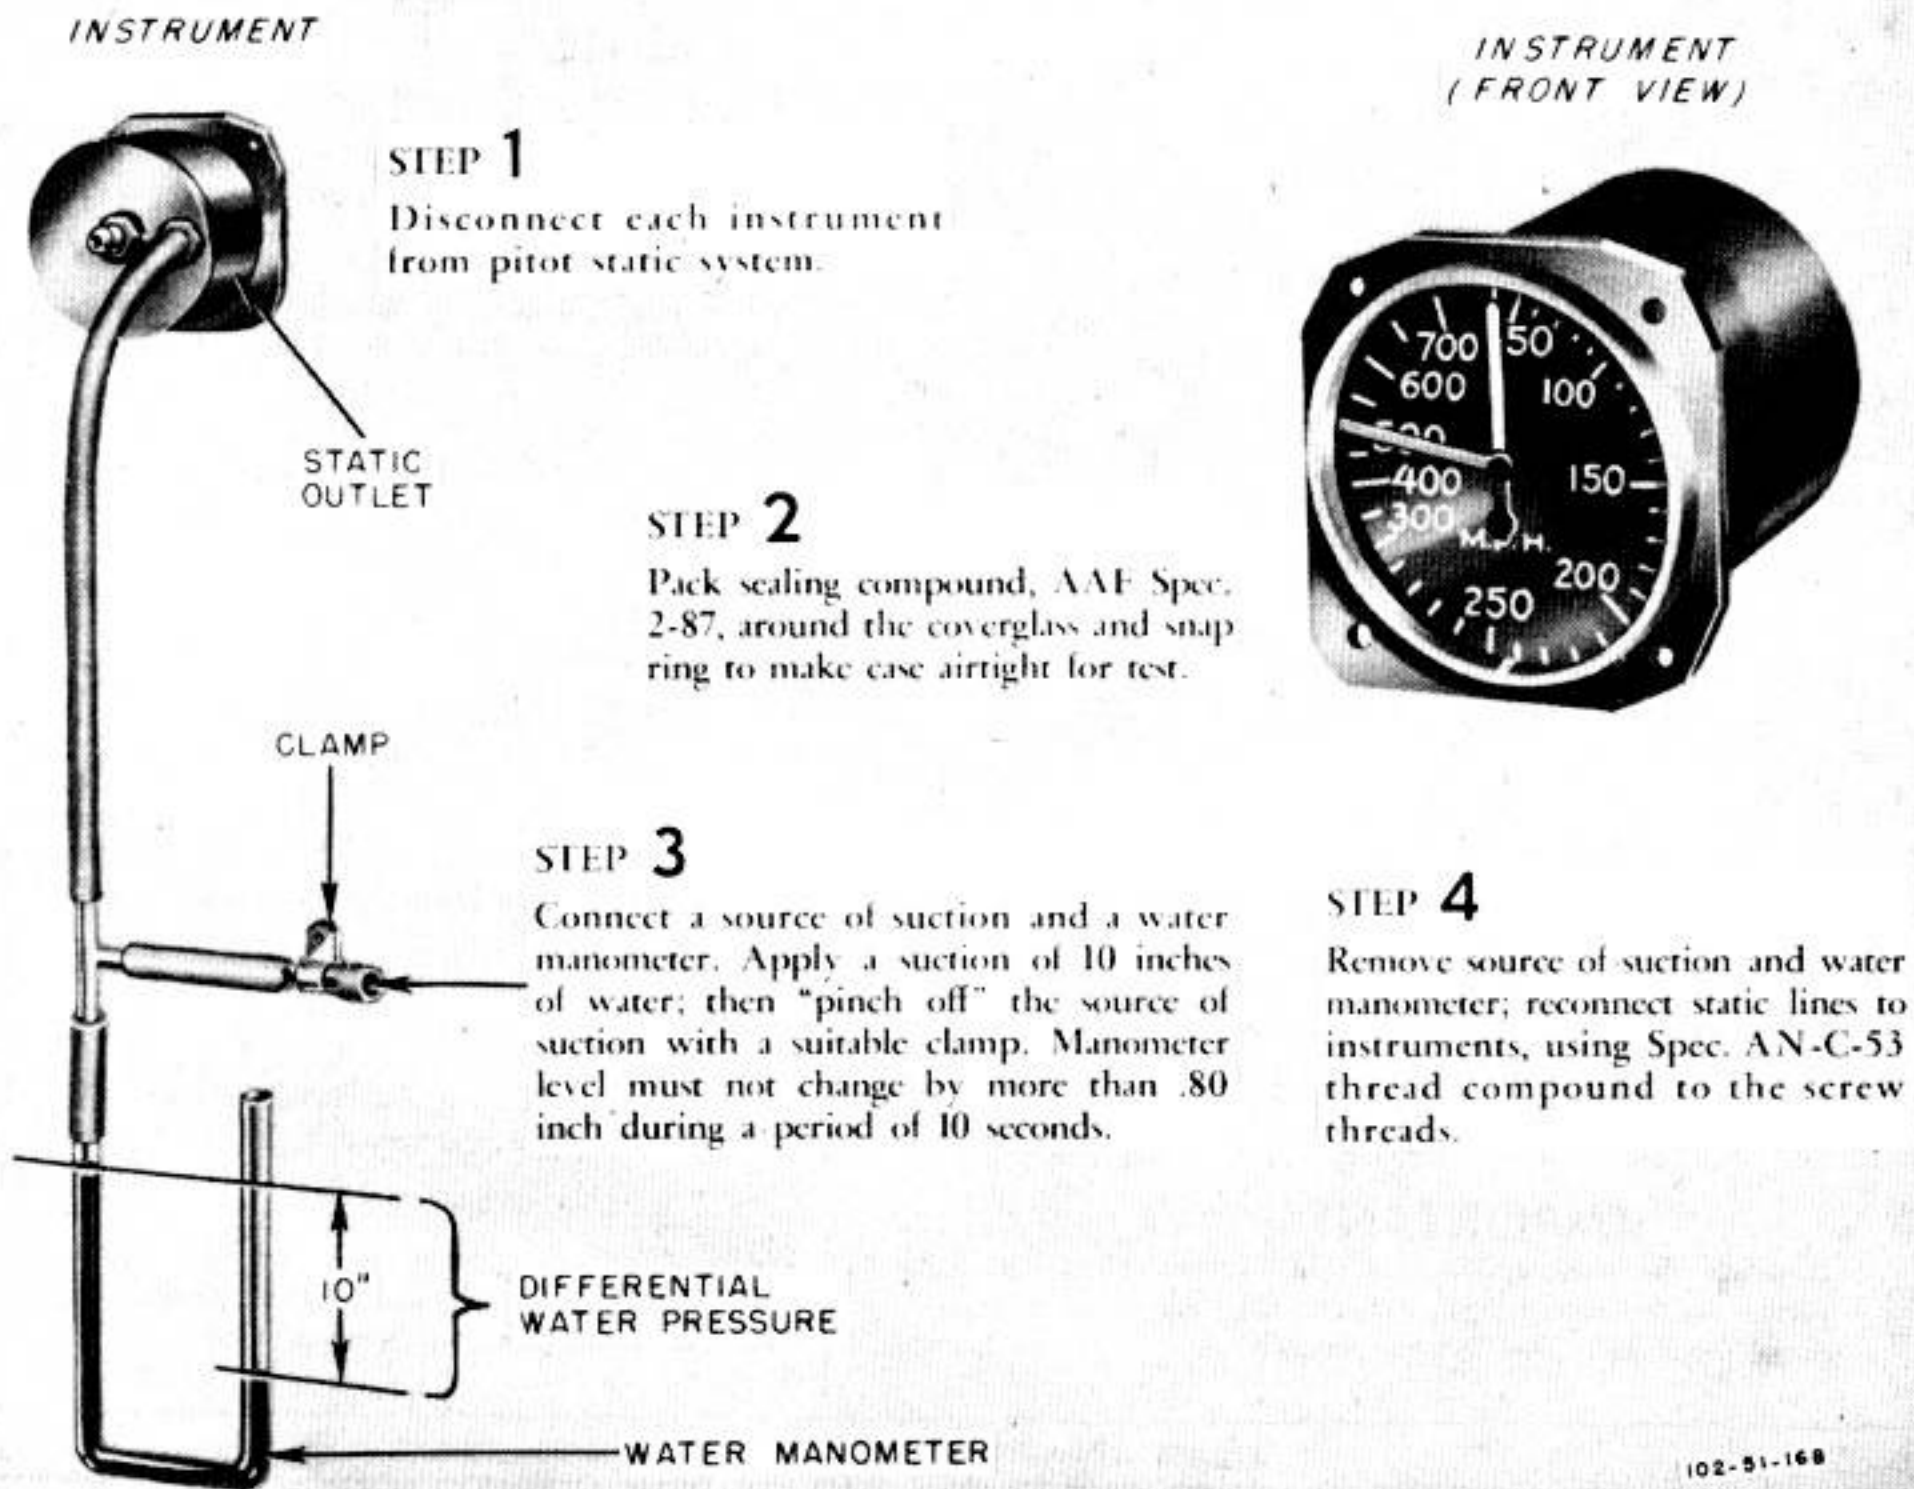

Figure 295—Instrument Case Leak Test
- (e) TESTING AIRSPEED SYSTEM INSTRUMENT CASES. (See figure 295.)